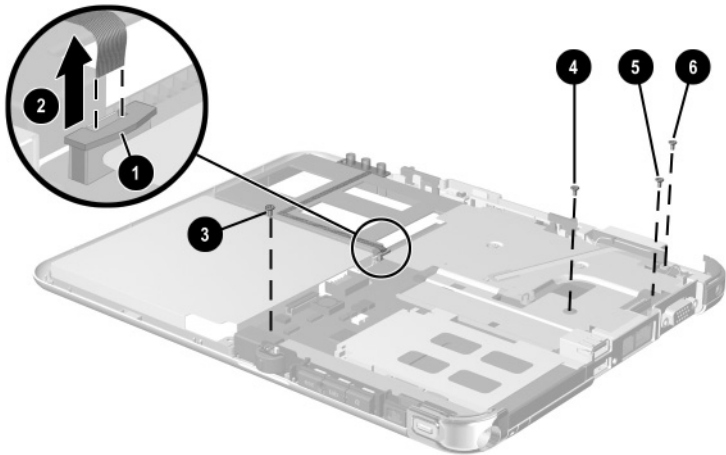

Figure 5-24. Removing the System Board Screws
13. Release the ZIF connector ❶ to which the LED board cable is attached and disconnect the LED board cable ❷ from the system board (Figure 5-24).
- ❑ Next to the pen holder spring clip ❸
- ❑ Directly behind the USB connectors ❹
- ❑ Directly behind the external monitor connector ❺
- ❑ Left side of the heat sink grille ❻